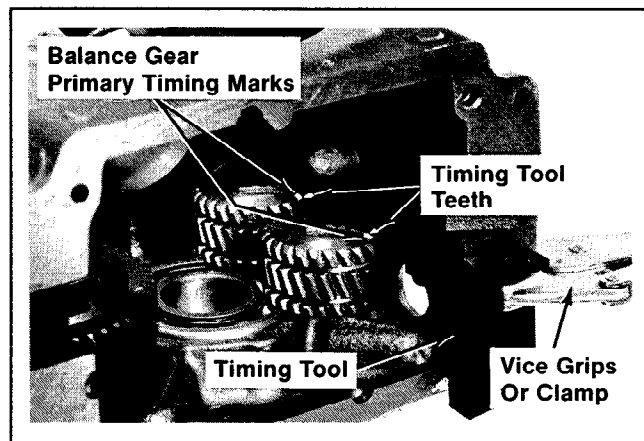

Figure 12-13. Installing Balance Gear Timing Tool.
1. Align the primary timing marks of balance gears with the teeth on timing tool. Insert tool so it meshes with gears. Hold or clamp tool against oil pan gasket surface. Refer to Figure 12-13.